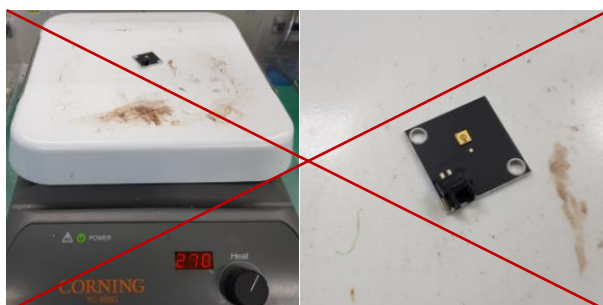

FIG 9. Do not use a hot plate to mount led-package onto PCB. A reflow oven is recommended.
- When soldering, do not use a hot plate. A convection type reflow oven is preferred. (Fig 9.)